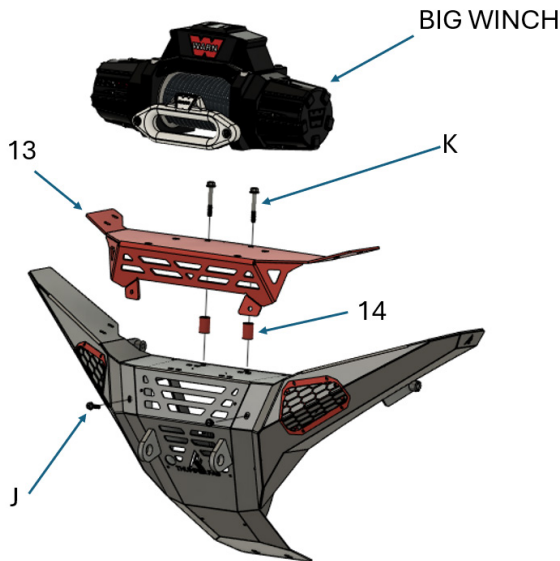

FIG 14 - Mount Big Winch Mount to Bumper Body using a 13mm Socket and Wrench and a 15mm Socket and Wrench
If the big winch option is selected, mount the winch to the big winch mount plate using hardware provided in winch box. Next, mount the big winch mount plate (13) to the main bumper using 2 x support spacers (14), 2 x M8x25mm flange head bolts (J), 2 x M10x70mm flange head bolts (K), 2 x M8 flange nylon lock nuts (L), and 2 x M10 flange nylon lock nuts (M). Tighten using a 13mm socket and wrench along with a 15mm socket and wrench (FIG 14). **MOUNTING OF BIG WINCH MAY CAUSE OVERHEATING ISSUES.**